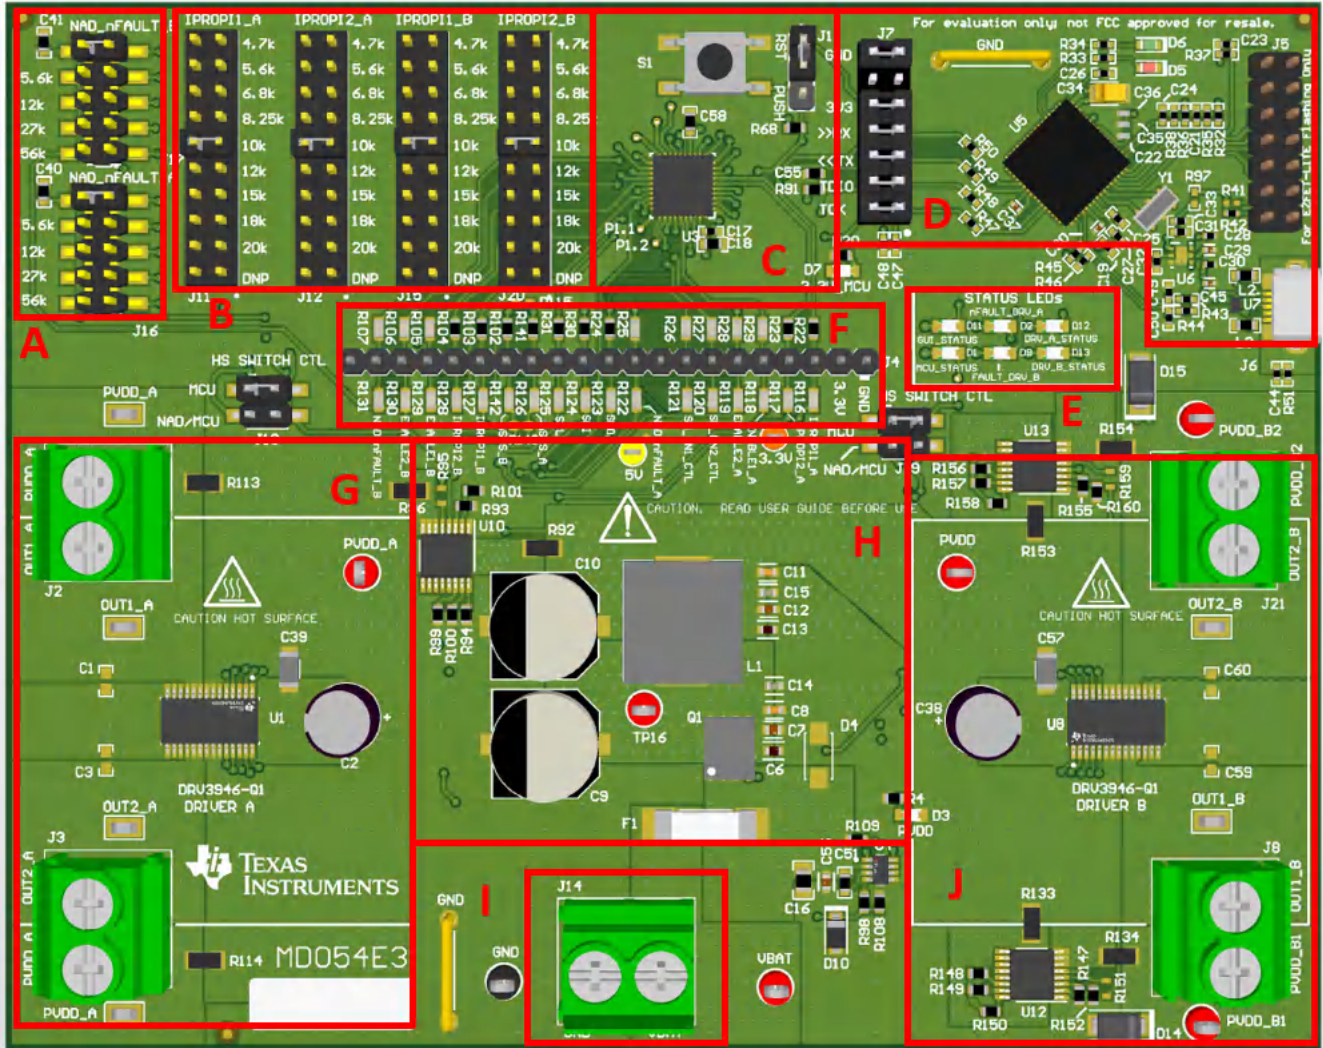

Figure 2-1. DRV3901-Q1EVM Hardware Components
The following sections explain the main components of the EVM (including connectors, configuration headers, and signal test points) in detail. Information such as voltage and current ratings is also present to state the limitations of the hardware to prevent potential damage to the board and its components. Figure 2-1 shows the main components of the DRV3901-Q1EVM. Table 2-1 gives a detailed description of each of the marked components. Both Figure 2-1 and Table 2-1 are referenced in the following sections.
2. Connect micro-USB cable to J6 (Figure 2-1). For proper GUI application operation, it is important to connect the EVM USB cable to a computer prior to applying VSUP power to the EVM. For standalone EVM testing a USB connection is not necessary.
3. With the VSUP external supply outputs disabled, connect +BAT supply to the screw terminals on the EVM (J14), observing polarity (Figure 2-1).